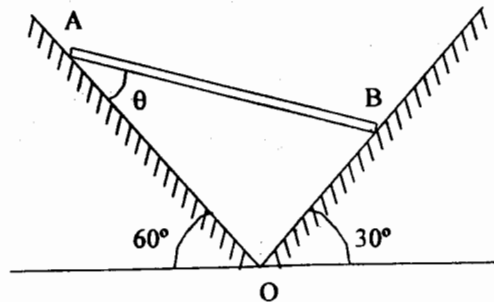

Fig. 5
- (a) A uniform bar AB of length L and weight W lies in a vertical plane with its ends resting on two smooth surfaces on OA and OB, find angle ' $\theta$ ' for equilibrium of bar. Refer Fig. 5